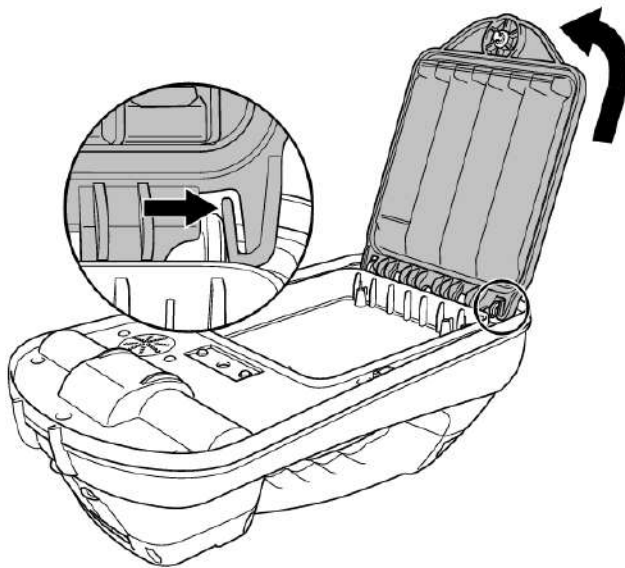

Figure 4.10: Press the release catch and lift the battery pack away
- 3 Release the retaining catch (fig 4.10) by pressing gently, then lift the battery pack away